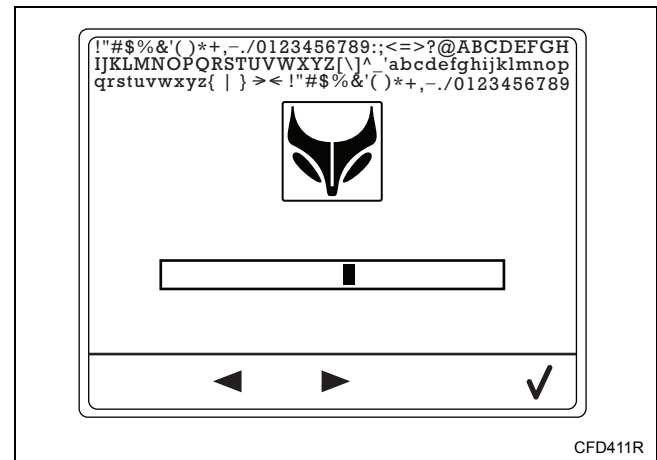

Figure 66
1. Increase or decrease contrast by pressing the keypads below the Navigation icons and confirm by pressing the keypad below the Check icon. Refer to *Figure 66*.